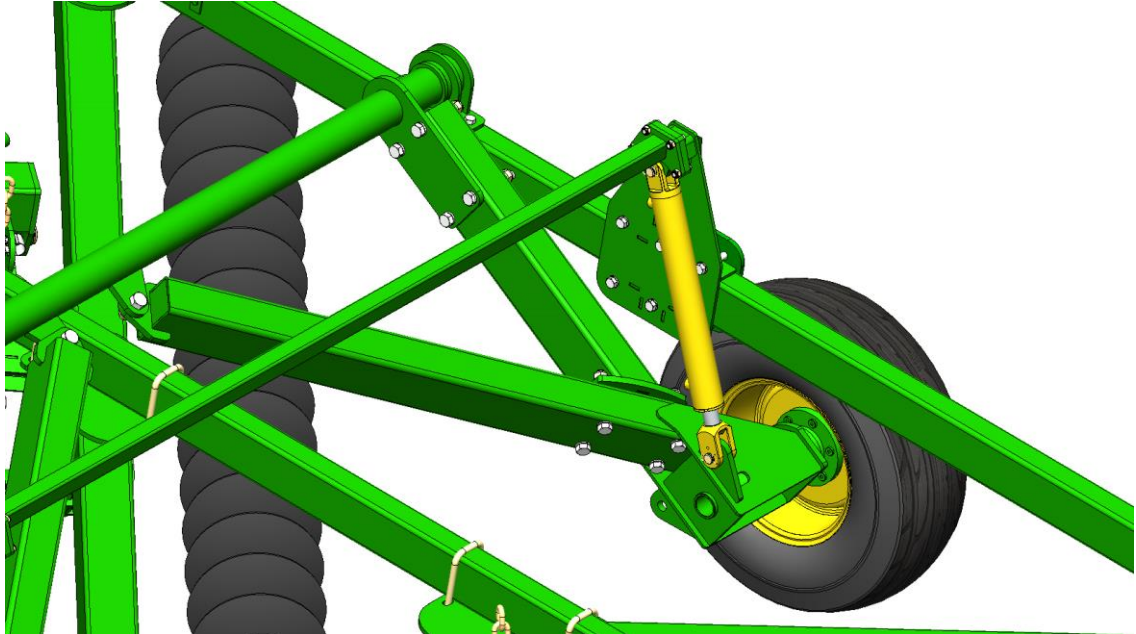

Figure 10: Attachment of cylinders, axles and wheels
5. Re-attach hydraulic cylinders as shown in Figure 10, then fully tighten all fasteners. Re-attach hydraulic hoses, and ensure that hydraulic cylinders function correctly. Finally, re-attach stub axles and wheels, ensuring that stub axle retaining bolt is re-attached.